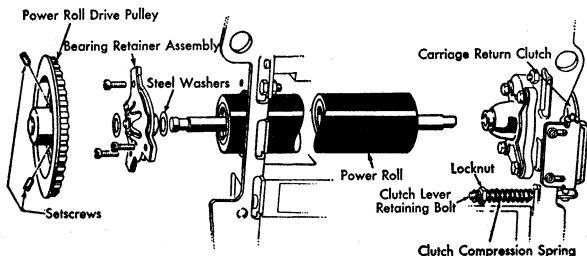

Figure 3. Power Roll Removal
4. Loosen the two setscrews in the power roll drive pulley and remove the pulley (Figure 3).
3. POWER ROLL END PLAY should be .002" to .010". Make the adjustment by positioning the power roll drive pulley on the shaft while tightening the set screws (Figure 3).